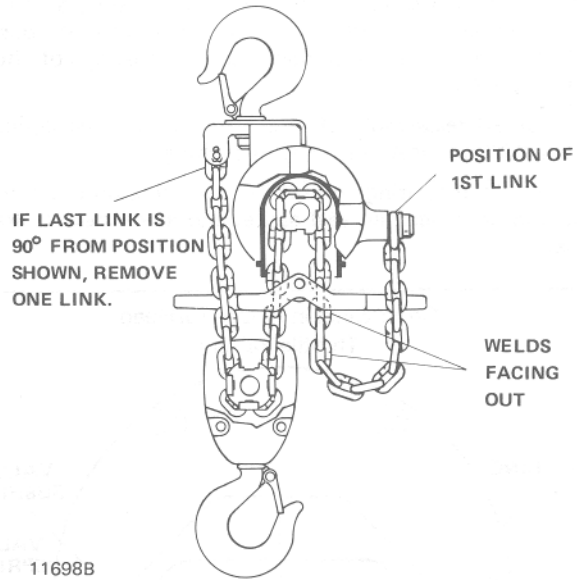
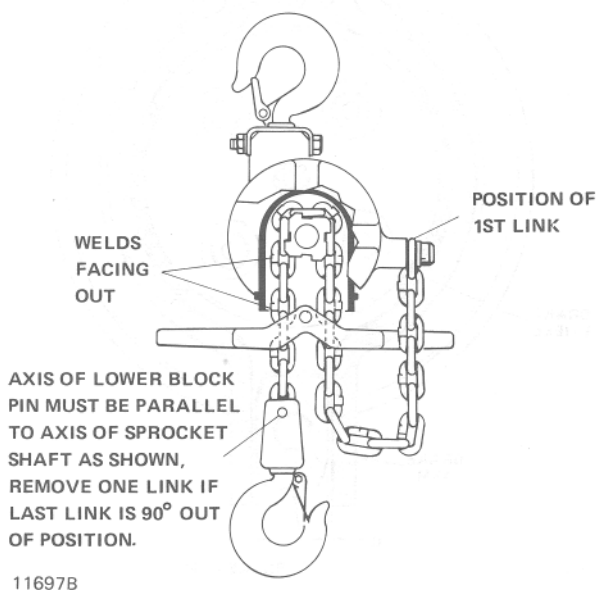

Figure 7-17. Installing Double Reeved Load Chain (3/4 and 1 Ton Models).
FIGURE 7-16. Installing Single Reeved Load Chain (1/4, 3/8 and 1/2 Ton Models).
(1) To install roller type load chain, first temporarily install connecting link on tail end of load chain. Then, with the air off, brake cover removed, and brake shoes locked in "open" position (with wedge between control lever and hoist body), turn brake wheel in "hoist" direction and feed chain in through lever control into chain sprocket. Once chain is over sprocket, brake cover can be replaced, hoist connected to air, and the chain run through hoist under power until sufficient chain has been run through to allow tail end to be attached to boss on side of frame with chain anchor. On single reeved hoist, attach lower block to load end of chain. On double reeved hoist, run lower block assembly onto chain and attach load end of chain to lug suspension bracket.
(2) When installing coil chain on the hoist, make sure the weld on the second link faces "out" or away from the sprocket. (See Figures 7-16 and 7-17). Now, with the air off, brake cover removed, and brake shoes locked in "open" position (with wedge between control lever and hoist body), turn brake wheel in "hoist" direction and feed chain in through lever control into chain sprocket. Continue to feed the chain through until approximately 15" to 16" hangs through the tail chain side of the hoist. Take the first link and swing it up (do not twist) (see Figure 7-16) to the frame boss and fasten in place. The rest of the chain can be pulled through, and then the lower block fastened in place (on single reeved hoist). On double reeved hoist, allow approximately 17" to 18" of chain to hang on the lifting direction side (Figure 7-17). Run the lower block assembly onto chain and swing (do not twist) the remainder of the chain up and attach to lug on suspension bracket. Remove wedge from between lever and frame and replace covers.
NOTE: Chain must not be twisted and link welds must be positioned as shown in Figure 7-17.